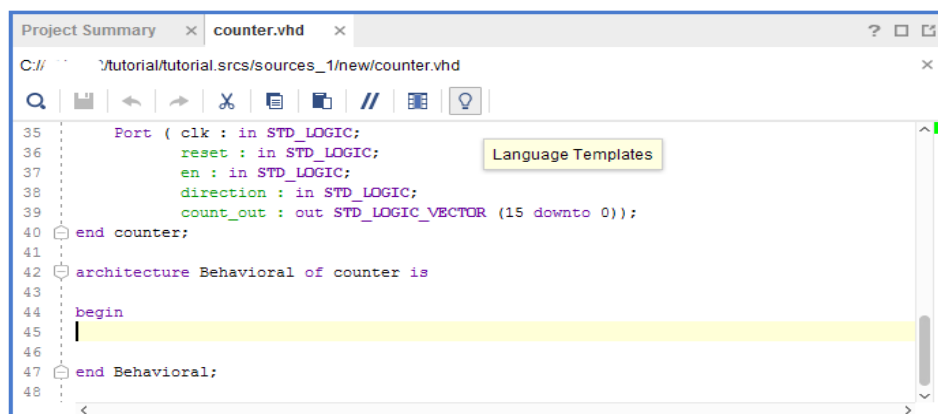

Figure 7
4. Open the **Language Templates** by selecting in the menu bar **Tools** → **Language Templates** or by selecting the **Language Templates** icon in the horizontal toolbar of the **counter** design source window (Figure 7)